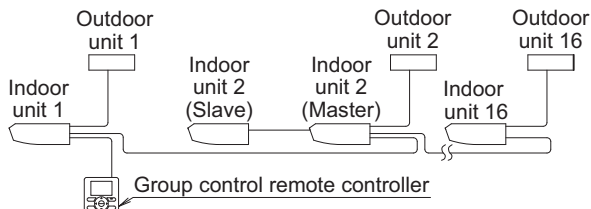

Fig. 34
- When using as a pair unit or as a master unit for simultaneous operation system, you may carry out simultaneous start/stop (group) control up to 16 units with the remote controller. (Refer to Fig. 34)
- Connect crossover wiring between the terminals (P1, P2) inside the control box for the remote controller. (There is no polarity.) (Refer to Fig. 34 and Table 3)